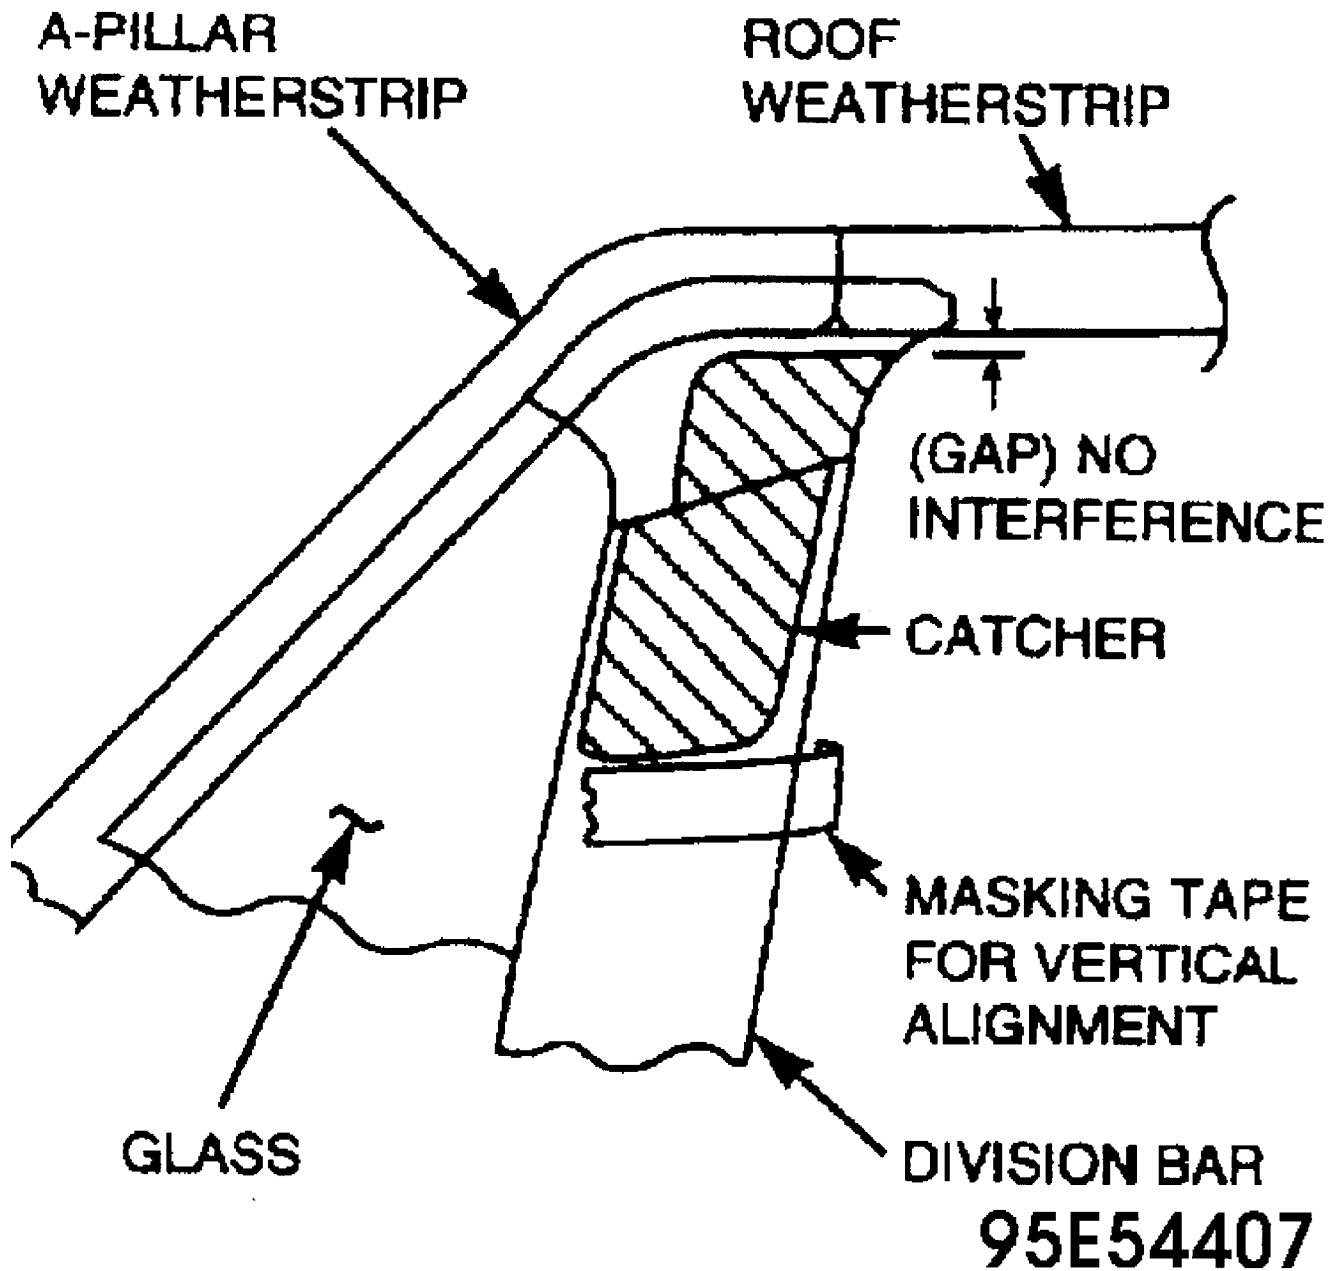

Fig. 2: Marking Edge Of Catcher On Division Bar
2. From inside the vehicle, close the door and confirm the position of the division bar weatherstrip and roof weatherstrip. Position the catcher so that it will not interfere with the roof weatherstrip when you open/close the door. While holding the catcher in position, place a small piece of tape on the division bar along the bottom edge of the catcher to mark its position. Refer to Fig. 2.